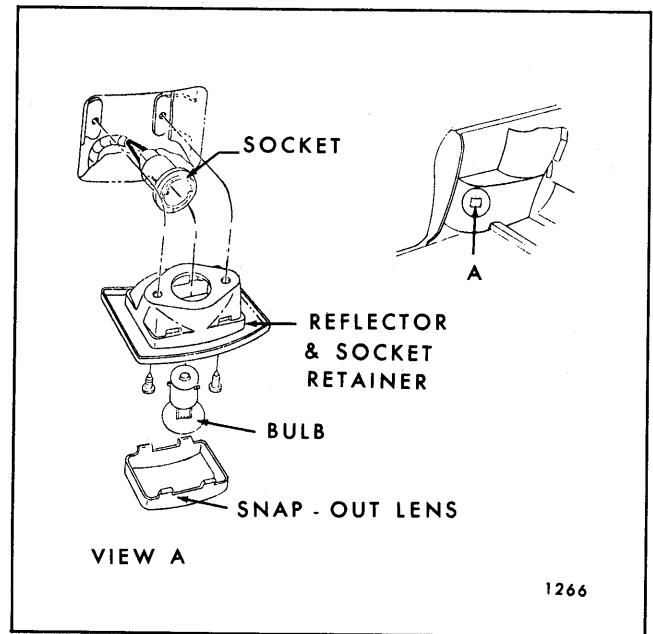

Fig. 14-20—Rear Quarter Arm Rest Courtesy Lamp
- f. On styles equipped with rear quarter lamp assemblies, disconnect lamp as shown in Figure 14-20.